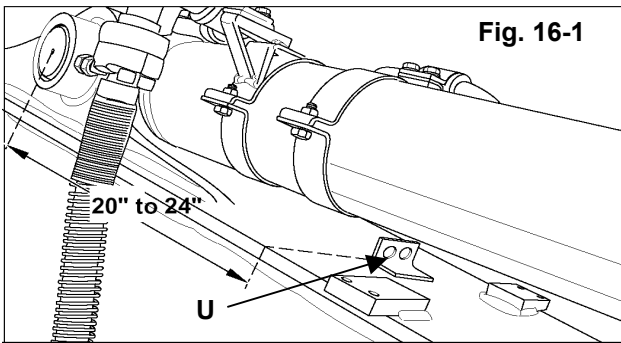

Fig. 16-1
10. The location of the Upper Bulkhead Fittings Bracket (**Chart#5 - U**) will vary depending on your specific machine. For a general guideline, install the Bracket approximately 20" to 24" from the center of the bucket cylinder connection pin (see **Fig. 16-1**). Remember, this dimension is only a guideline and your requirements may vary depending on your specific excavator/arm combination. Weld the bracket securely onto the excavator arm using E7016 or E7018 welding rod, or equivalent.